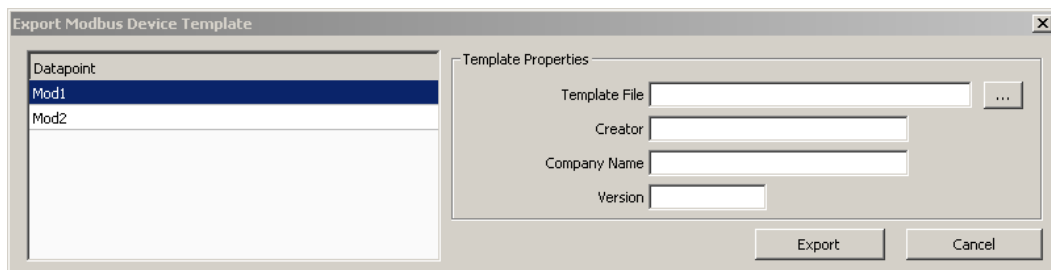

Figure 156 Export Modbus Device Template dialog.
3. Press the **Export Device Templ.** Button. This opens the **Export Modbus Device Template** dialog shown in Figure 156. The list on the left side of the dialog shows the names of the data points which are exported to the template.
2. This opens the **Export Modbus Device Template** dialog as shown in Figure 156. Proceed as described above.